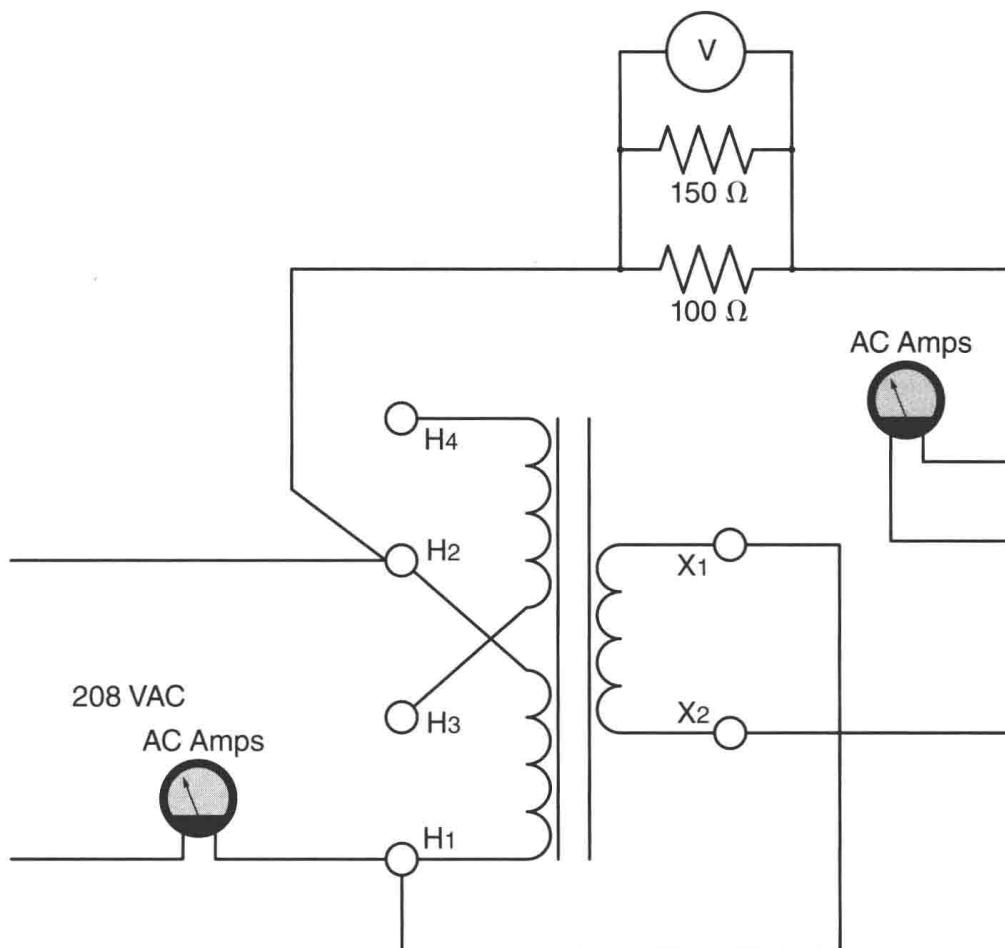

Figure 21-17 Adding load to the transformer.
30. Connect a 150-ohm resistor in parallel with the 100-ohm resistor as shown in Figure 21-17. Reconnect the AC ammeter in series with the secondary winding if necessary.